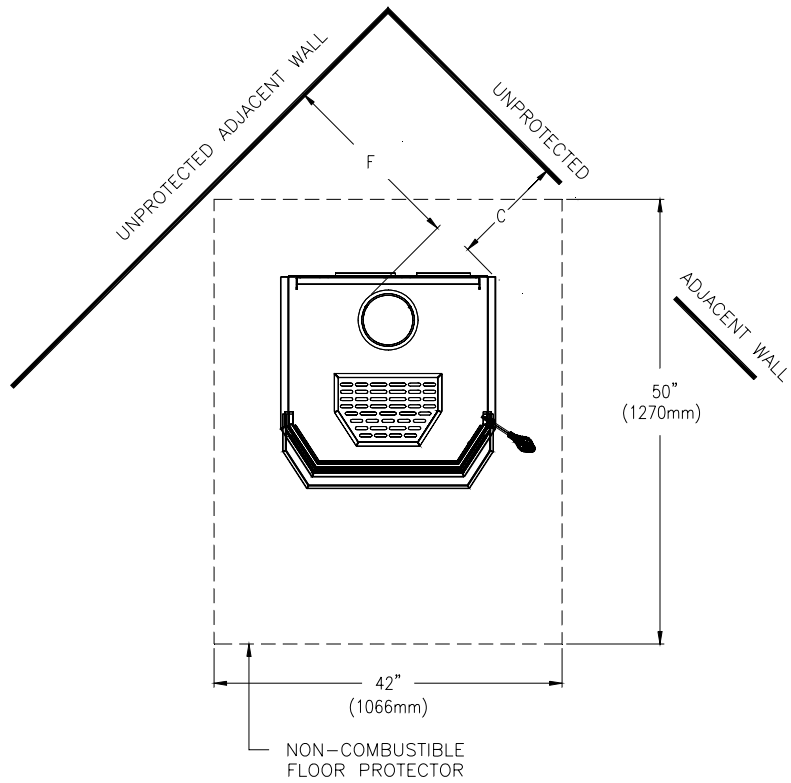

Figure 1.1 Clearances to Combustibles
Clearances to any combustibles when measured directly out from the front and up from the top of The stove must be a minimum of 48" (1219 mm). The stove must also be placed so as to maintain the minimum clearances to combustible walls specified for the connector used. (See Table 1.1 and Figure 1.1).
1. Mark the location for the floor protection[‡] (if required) as noted in Figure 1.1.
If the stove is to be installed on top of a combustible floor it must be guarded by a non-combustible material extending beneath the heater and to the front and sides as indicated in Figure 1.1, or to the nearest permitted combustible material. Floor protection must extend beneath, and 2” (51 mm) to the sides of a horizontal connector if one has been used.